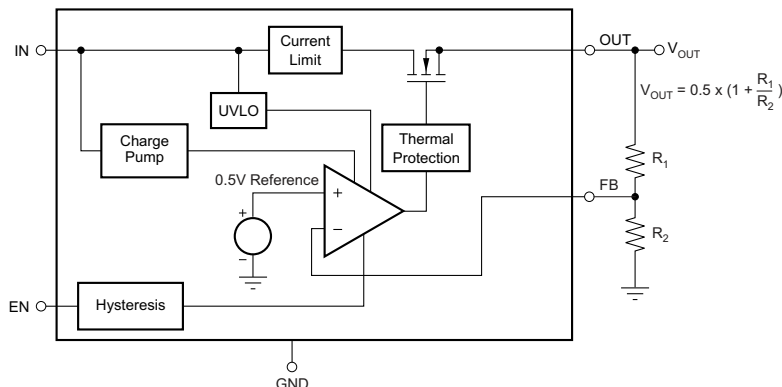

Figure 7. Adjustable Output Voltage Version
- When setting  $V_{OUT}$  to a value other than 0.5 V, connect  $R_2$  to the FB pin using  $27\text{-k}\Omega \leq R_2 \leq 33\text{-k}\Omega$  resistors. See Figure 7 for details of  $R_1$  and  $R_2$ .